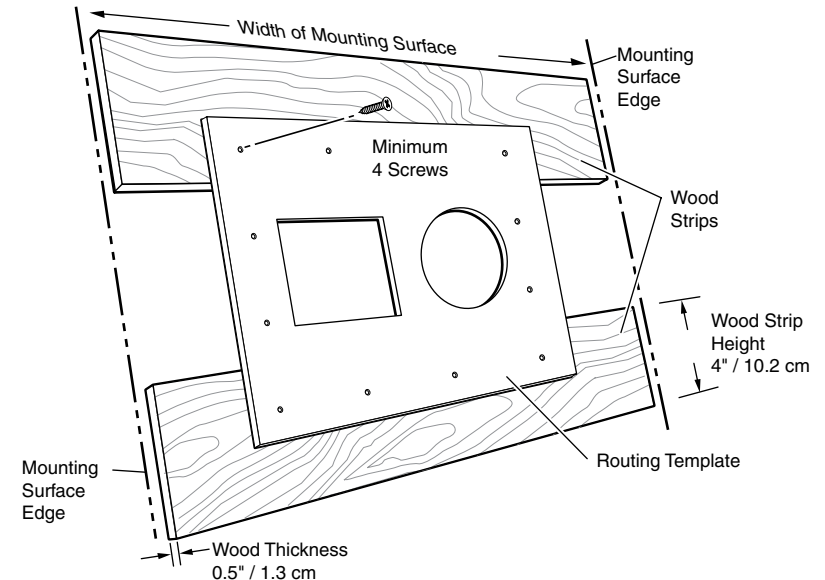

Figure 2-1 — Prepared CC 300 mounting template
1. Cut 1/2" x 4" strips of soft, finished lumber at least long enough to span the distance between the desired installation location on the mounting surface and the edges of the mounting surface (figure 2-1).